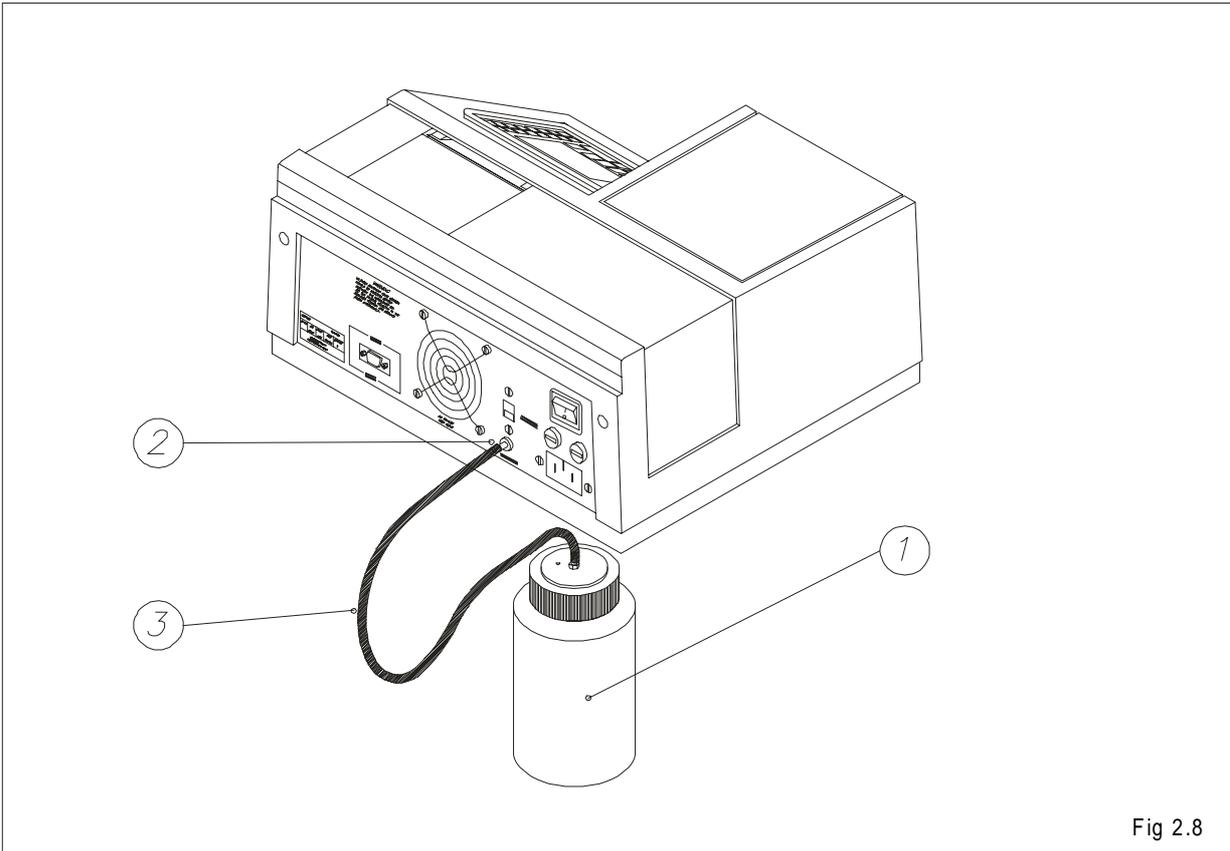

Fig 2.8
The waste bottle (1) (figure 2.8) is connected to the outlet (2) in the back of the instrument by means of a silicone tube (3).